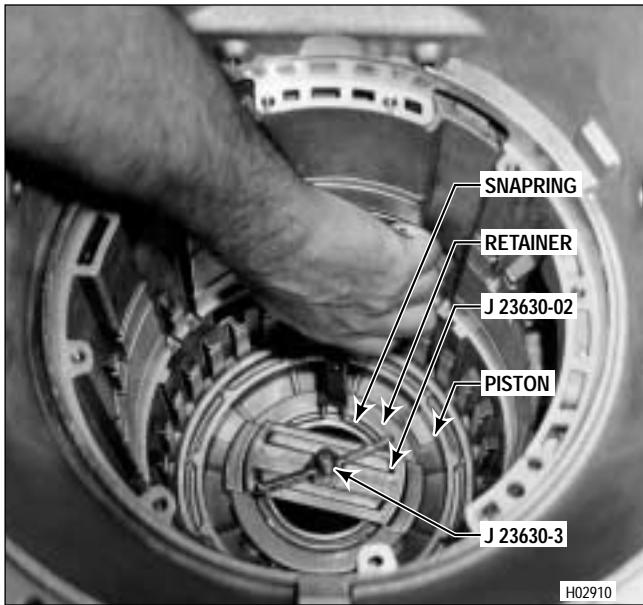

Figure 5-23. Removing First Clutch Spring Retainer Snapring
(2) Remove the ring gear and clutch pack as a unit from the main case. On earlier models, the rear ring gear is part of the rear carrier assembly and is removed with the planetary gear unit.
(3) Install first clutch spring compressor assembly J 23630-02 (Figure 5-23). Tighten nut J 23630-3 until the snapring is clear of the spring retainer.
- (4) Remove the snapring. Remove the compressor assembly.
- (5) Remove the spring retainer and the twenty-two piston return springs.
- (6) Remove the first clutch piston (Figure 5-23). Remove the two lip-type sealings from the piston.